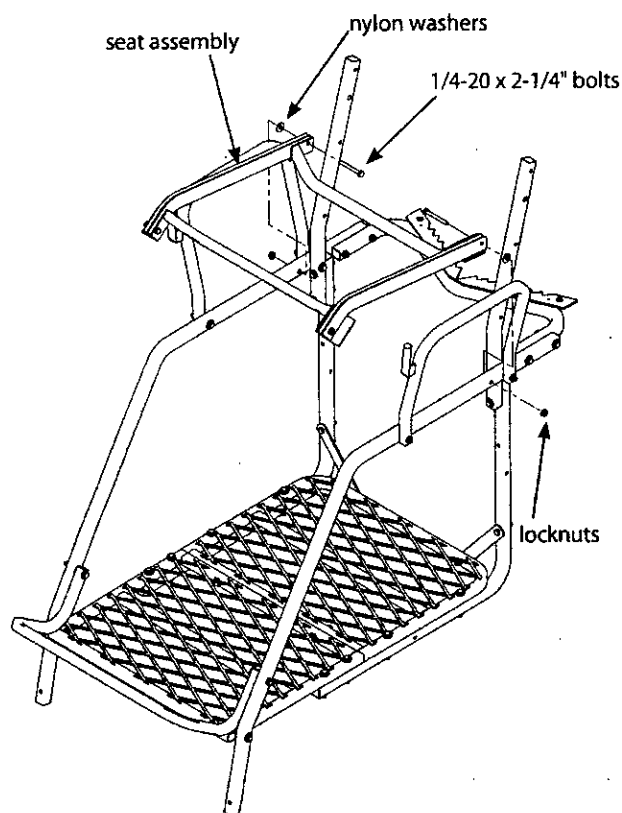

Figure 7
9. Remove the locknuts from the (2) 1/4-20 x 2-1/4" bolts that were previously attached to the rear of the seat assembly. Continue by attaching the assembled seat assembly to the ladder side rails using (2) provided 1/4-20 x 2-1/4" bolts, locknuts and nylon washers. **SEE FIGURE 7.** **Make sure all (4) angle brackets are fully cradling fabric rails.**